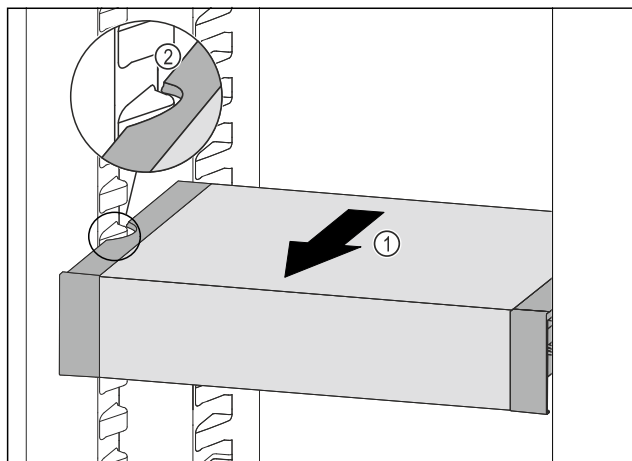

Fig. 105
- Pull VarioSafe forwards Fig. 105 (1) until the recesses in the side of the VarioSafe are at the level of the support rib in the fridge section. Fig. 105 (2)